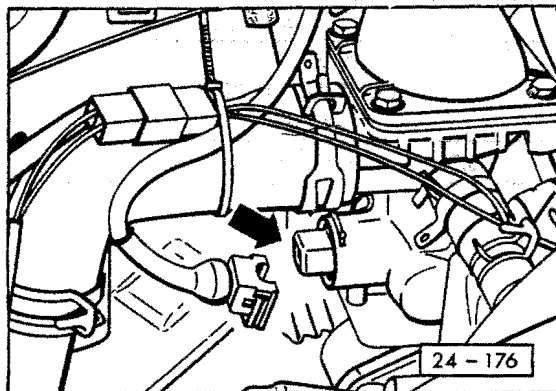

Fig. 2 Temperature sensor II
- disconnect temperature sensor II (see Fig. 2)